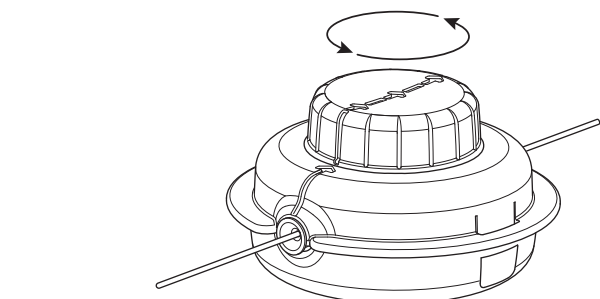

Fig. 19
- Turn the bump knob counterclockwise to wind the line until about 5 inches (12.7 cm) protrude from each side of the cutting head (Fig. 19). **DO NOT** push the bump knob down while winding the line.